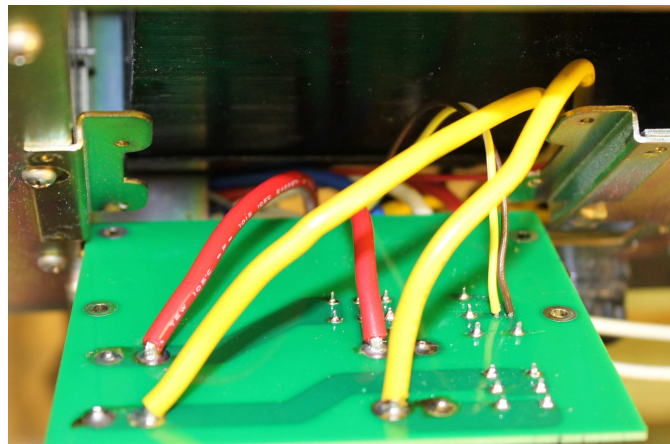

Figure 2.7: Inserting Step-Start PCB and Routing Wire Leads
- Route the wires as shown in Figure 2.7.